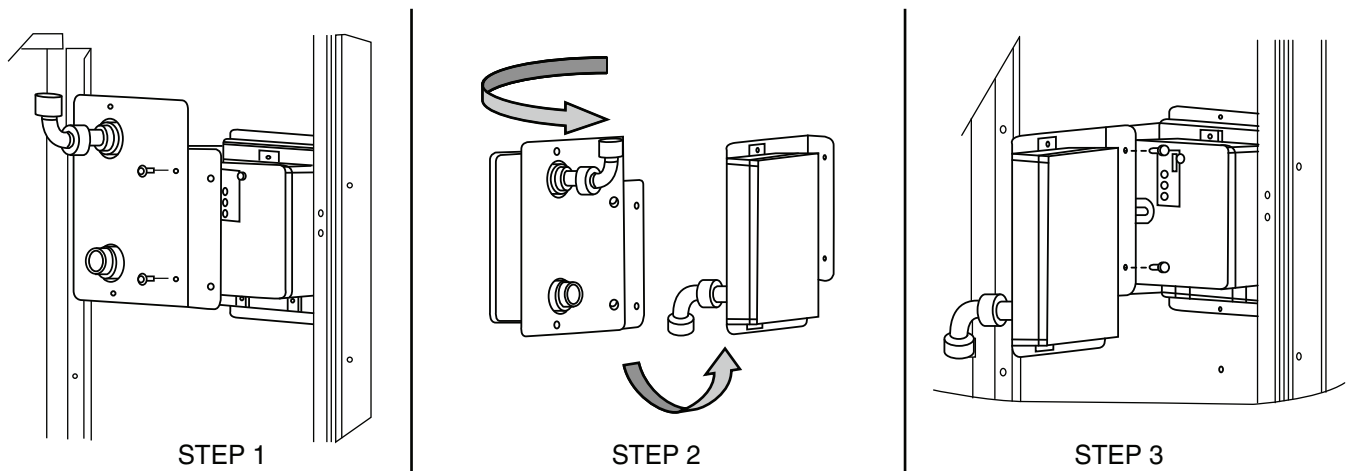

Fig. 51 — Completing Installation of Return Air Smoke Sensor
1. Unscrew the two screws holding the Return Air Smoke Detector assembly. See Fig. 51, Step 1. Save the screws.
2. Turn the assembly 90 and then rotate end to end. Make sure that the elbow fitting is pointing down. See Fig. 51, Step 2.
3. Screw the sensor and detector plate into its operating position using screws from Step 1. See Fig. 51, Step 3.